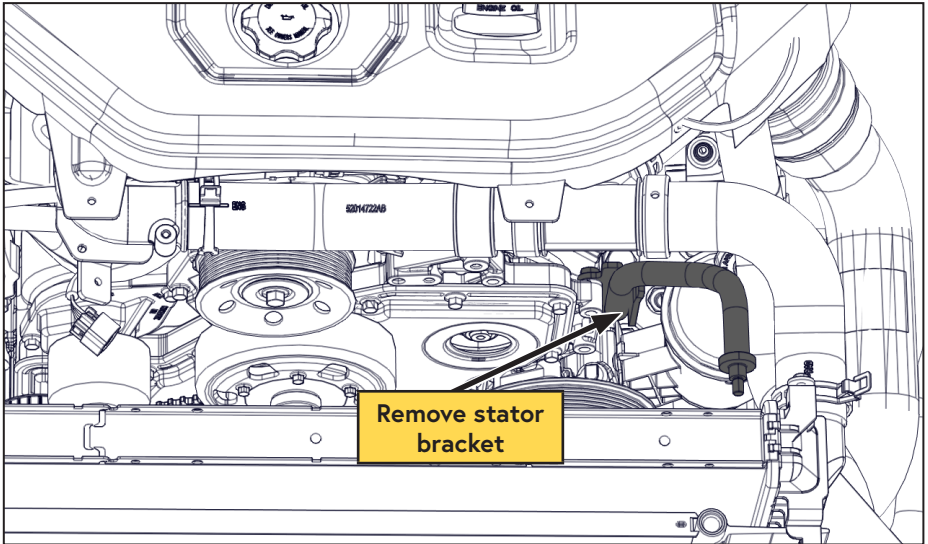

Figure 5 — Stator bracket
- Remove the upper driver side stator bracket. Set the bracket and hardware aside for reinstallation later (Figure 5).